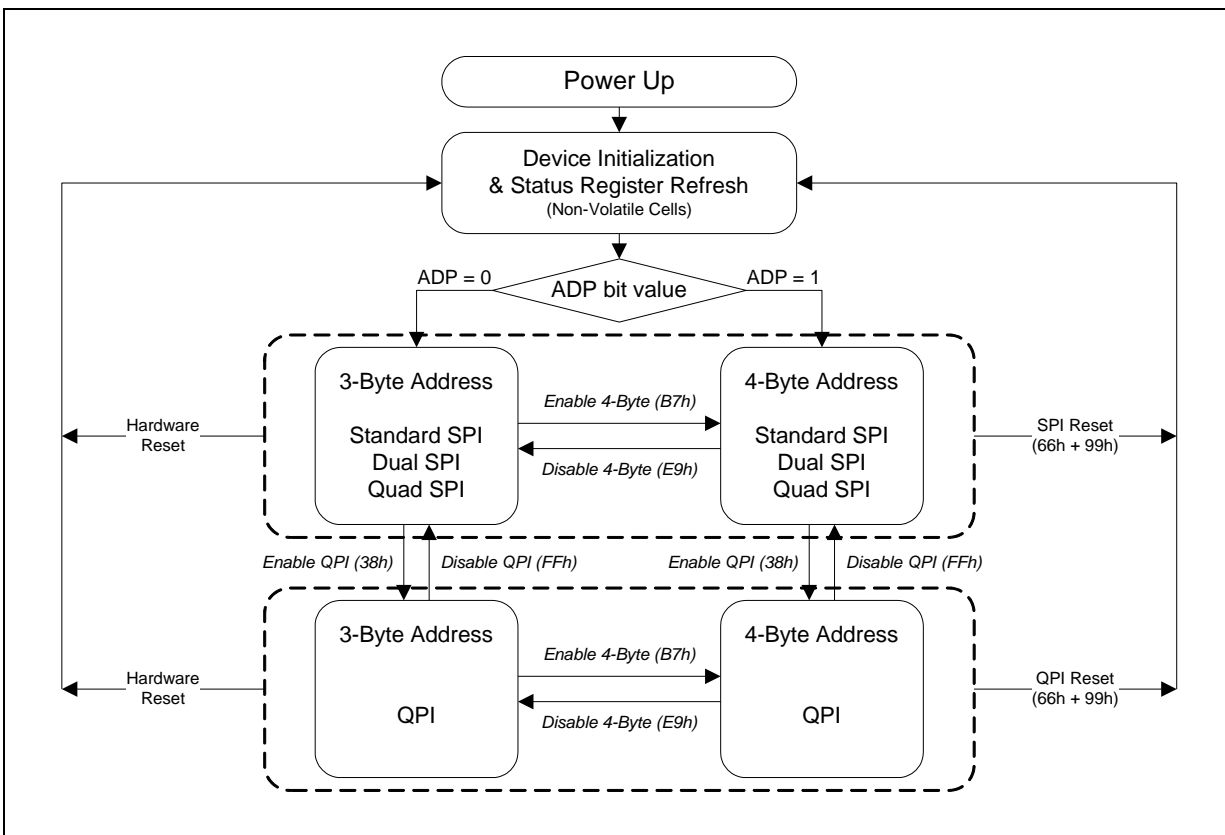

Figure 3. W25Q25PW Serial Flash Memory Operation Diagram
The W25Q25PW supports Quad Peripheral Interface (QPI) operations only when the device is switched from Standard/Dual/Quad SPI mode to QPI mode using the “Enter QPI (38h)” instruction. The typical SPI protocol requires that the byte-long instruction code being shifted into the device only via DI pin in eight serial clocks. The QPI mode utilizes all four IO pins to input the instruction code, thus only two serial clocks are required. This can significantly reduce the SPI instruction overhead and improve system performance in an XIP environment. Standard/Dual/Quad SPI mode and QPI mode are exclusive. Only one mode can be active at any given time. “Enter QPI (38h)” and “Exit QPI (FFh)” instructions are used to switch between these two modes. Upon power-up or after a software reset using “Reset (99h)” instruction, the default state of the device is Standard/Dual/Quad SPI mode. To enable QPI mode, the non-volatile Quad Enable bit (QE) in Status Register-2 is required to be set. When using QPI instructions, the DI and DO pins become bidirectional IO0 and IO1, and the /WP and /HOLD pins become IO2 and IO3 respectively. See Figure 3 for the device operation modes.